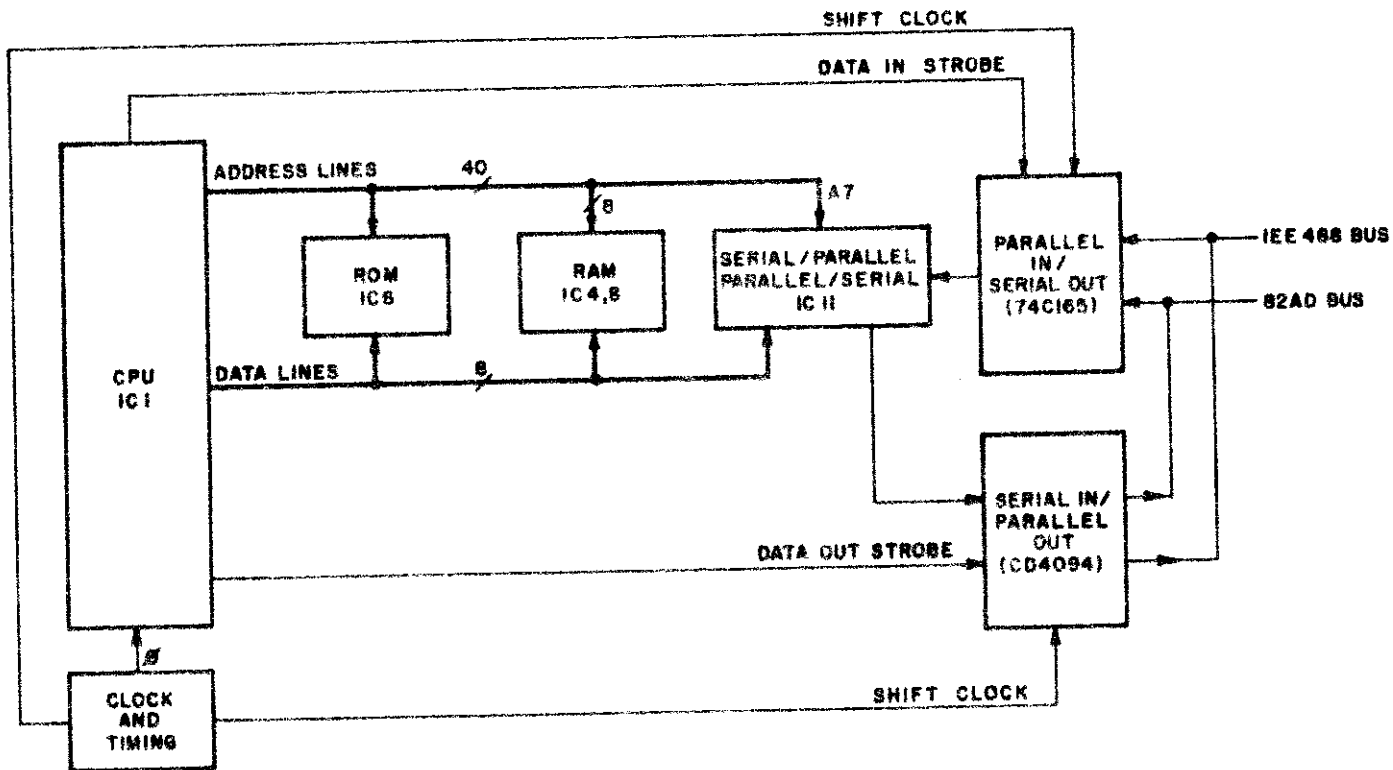

Figure 3-1. Simplified Block Diagram
- 3.4 SIMPLIFIED BLOCK DIAGRAM. Figure 3-1 presents the simplified block diagram of the 82AD-01.
- 4.10 SYMPTOMATIC TROUBLESHOOTING. The modular construction of the 82AD-01 facilitates symptomatic troubleshooting. With a thorough understanding of the detailed block diagrams (Figure 3-1 through Figure 3-4), it is possible to localize the cause of most malfunctions to one or more of the major circuit groups by operating the Bus controller and observing the results. (Refer to Table 4-3.)